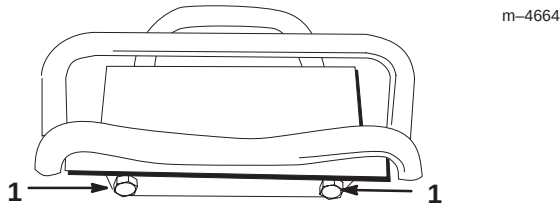

Figure 24
- If the traction unit veers to the **left**, loosen the the **right** jam nut and adjust the tracking set screw on the front of the traction control (Fig. 24).
4. If the traction unit veers to the **right**, loosen the the **left** jam nut and adjust the tracking set screw on the front of the traction control (Fig. 24).